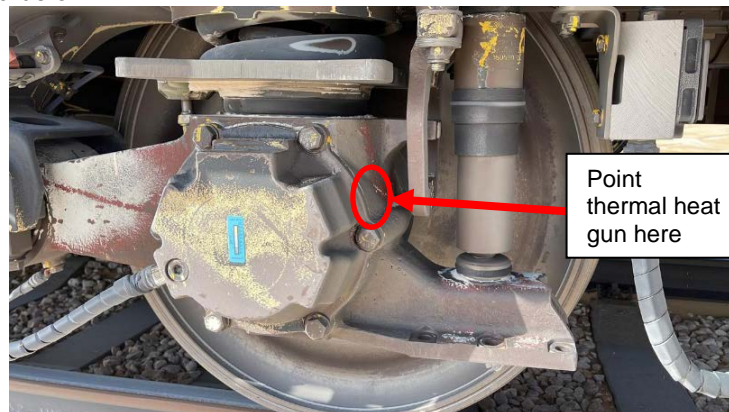

Figure 1: Bearing Temperature Reading Location
3. The OBT shall check the temperature of all axle boxes at the axle end point closest to the bearing assembly, the measurement must always be taken at the point shown in Figure 1. For the purposes of this instruction ignore any temperature stickers attached to the axle end – the Calibrated Heat Gun is to be used.
3. The OBT shall check the temperature of all axle boxes at the axle end point closest to the bearing assembly in accordance with Table B below, the measurement must always be taken at the point shown in Figure 1 (see above)